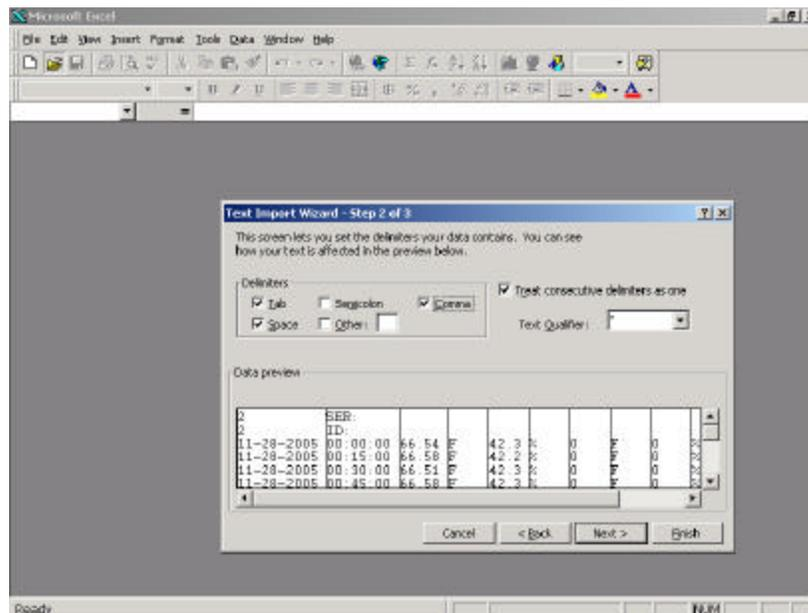

Figure 3. Specifying Environmental Data Format
- At the 'Text Import Wizard – Step 2 of 3' screen (see Figure 3), select 'Tab', 'Space', 'Comma', and 'Treat consecutive delimiters as one'. Then click on the 'Next' button.